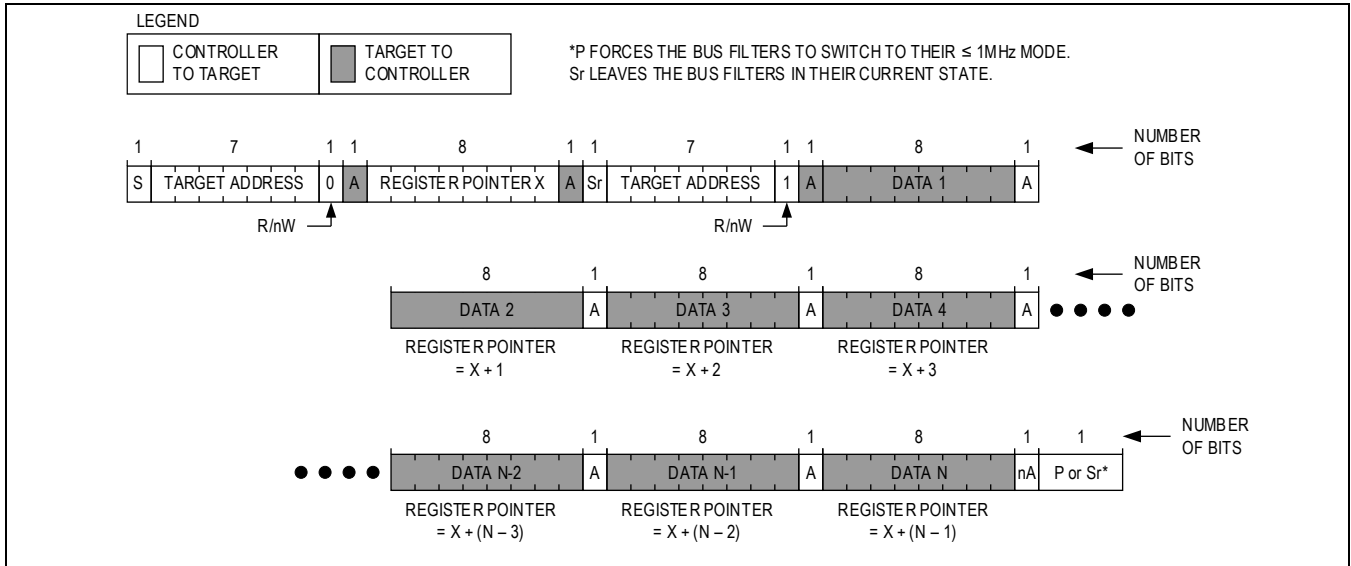

Figure 14. Reading from Sequential Registers
Figure 14 shows the protocol for reading from sequential registers. This protocol is similar to the “Read Byte” protocol, except the controller device issues an ACKNOWLEDGE (A) to signal the target device that it wants more data. When the controller device has all the data it requires, it issues a NOT-ACKNOWLEDGE (nA) and a STOP condition (P) to end the transmission.